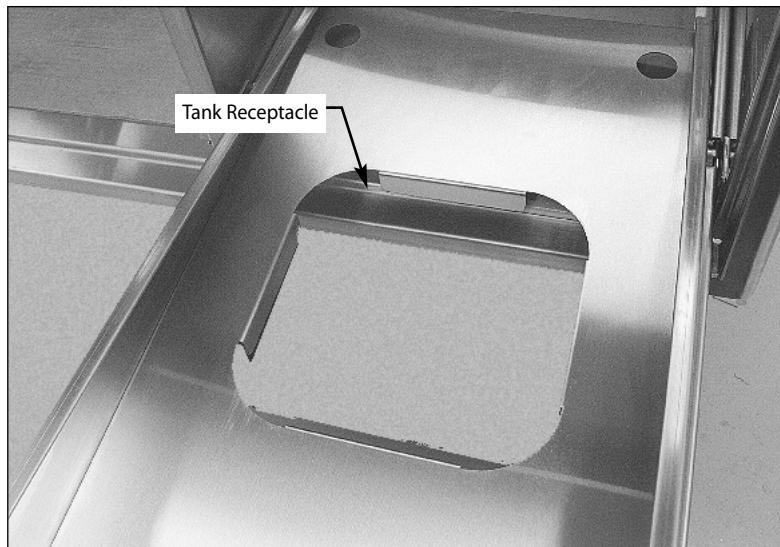

Fig. 14
6. Your LP tank will be installed in the recess provided in the bottom of the right compartment (Fig. 14).